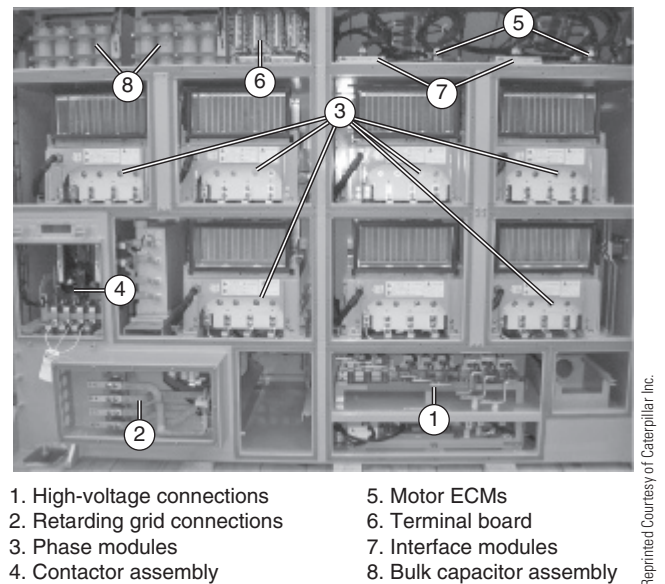
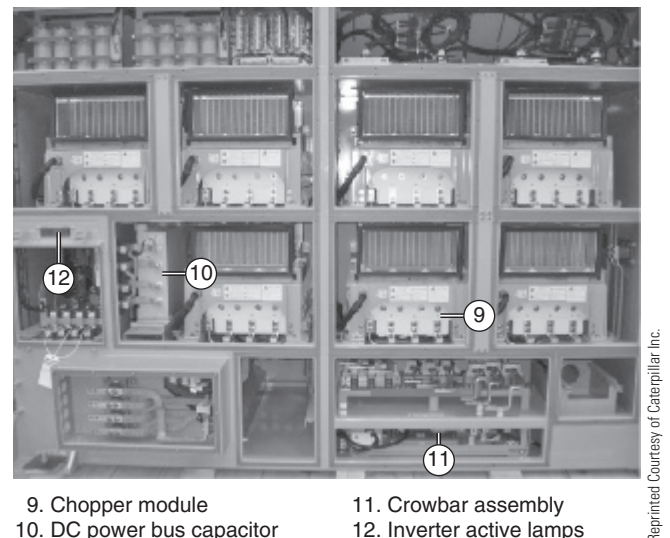

Figure 20-13 A front view of the inverter cabinet on a 795F truck.
Figure 20-14 A front view of the inverter cabinet on a 795F truck.
Figure 20-13 and **Figure 20-14** show the front of the IC. It contains the components and controls
IC Components. The following components are housed in the inverter cabinet (shown in **Figures 20-13 and 20-14**); some are described in more detail later in the chapter.
Chopper Module. (**Figure 20-14**) (9) regulates DC bus voltage by routing power to the dynamic retarding grid.
The drivetrain ECM is located in the cab front ECM compartment. The two motor ECMs are located in the inverter cabinet (see **Figure 20-13**). The primary functions of the three control modules are described below.